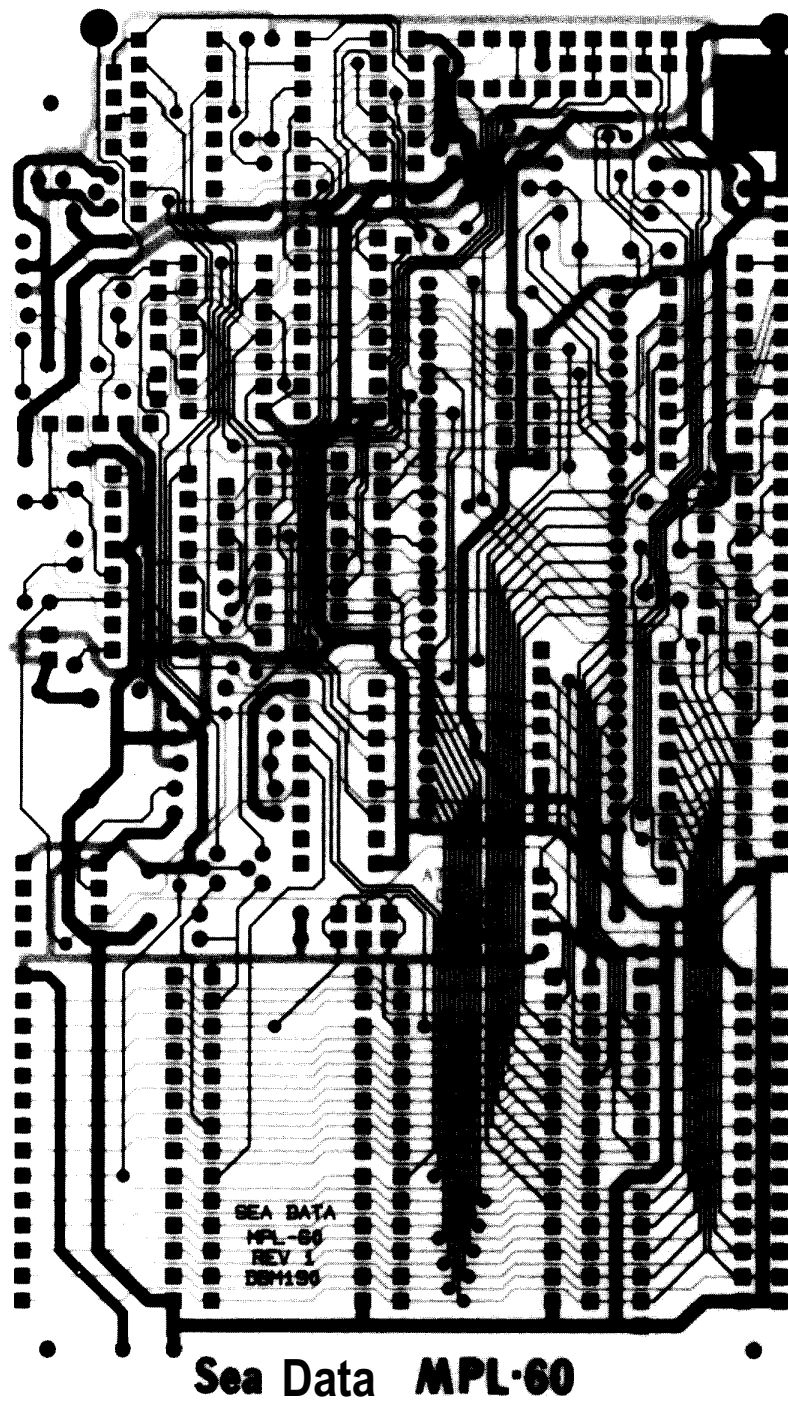

Figure 12.10. Photoplot for the double-sided board shown in Figure 12.11. Both layers are overlaid in this photograph, showing the view from the solder side.
□ **Photoplot and drill tape.** If all has gone well, the last stage of the process consists of producing a machine-readable board description suitable for the PC house. For this you need two things: a tape that tells a photoplotter how to draw a precision plot of the "artwork" (the individual foil patterns for each layer, a pattern for the "solder mask," and a silkscreen pattern for printed legends) and a "drill tape," which tells each hole size and its precise position. The artwork tape is usually written in "Gerber format," named after a brand of photoplotter that exposes film by moving a large easel under a stationary projector in response to commands written on tape. (A newer form of photoplotter uses laser scanning, producing large plots in minutes rather than the hours required by the early Gerber machines.) Some PC board fabricators want you to supply the finished photoplots (Fig. 12.10), whereas others ask for the Gerber tape itself. A surprising number of board houses ignore the drill tape, preferring to figure out where the holes go by manually digitizing the **photo**-plotted artwork (if you ask, they'll tell you that customer-supplied drill tapes sometimes have crazy commands that break their drill bits). Drill tapes, believe it or not, are not magnetic tapes; they are *paper* tapes!